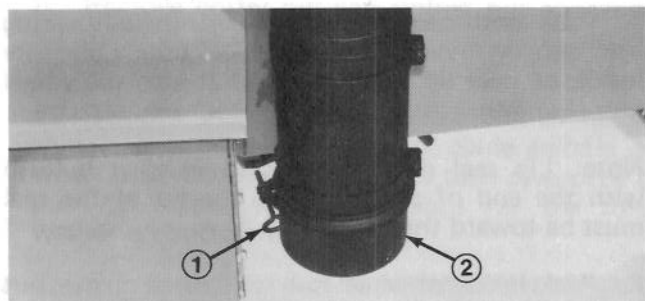

Figure 53
1. Loosen thumb screw until dust cup and baffle can be removed (Fig. 53). Separate dust cup and baffle (Fig. 53).